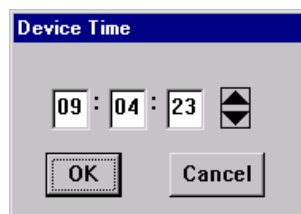

Figure 2-15. Edit Time Window
2. The Device Time change window, Figure 2-15, will appear.